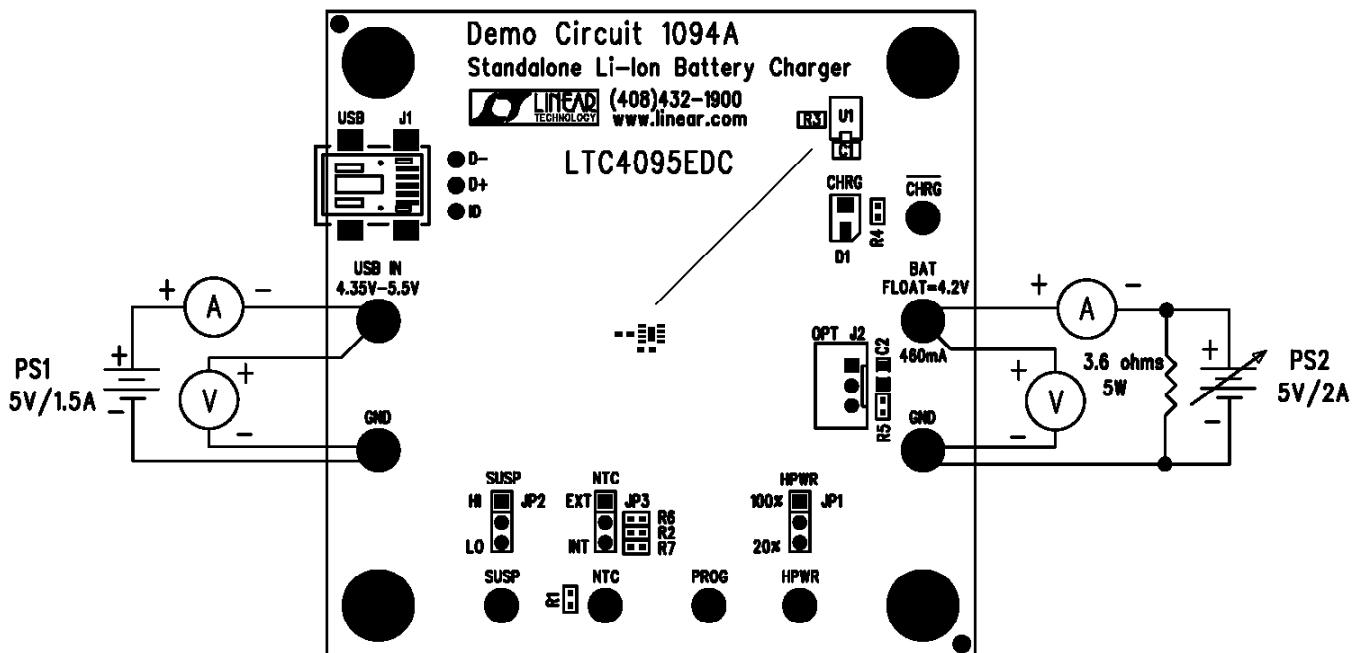

Figure 1. Proper Measurement Equipment Setup
Refer to Figure 1 for proper measurement equipment setup and follow the procedure below:
2. With the power supplies adjusted to 0V, connect the USB IN power supply and Battery or Battery Simulator with series ammeters, as illustrated in Figure 1. An ammeter or a 100m Ω current sense resistor may be used to measure the battery charge current.
3. Connect voltmeters, as shown in Figure 1, across the USB IN and GND terminals, and across the BAT and GND terminals. These voltmeters may also be used to measure the voltage on the PROG terminal.